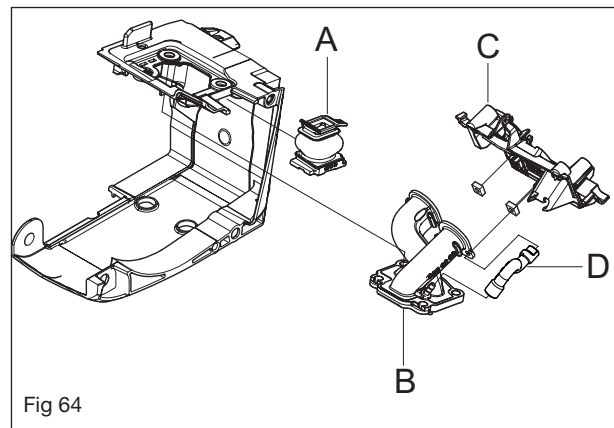

Fig 64
Fit the intake system (B) and the air duct bellows (A) in the cylinder cover. See Figure 64.
Assemble the bottom of the carburettor (C) and pull the intake bellows through the respective openings. Secure the impulse hose (D) to the bottom of the carburettor. See Figure 64.